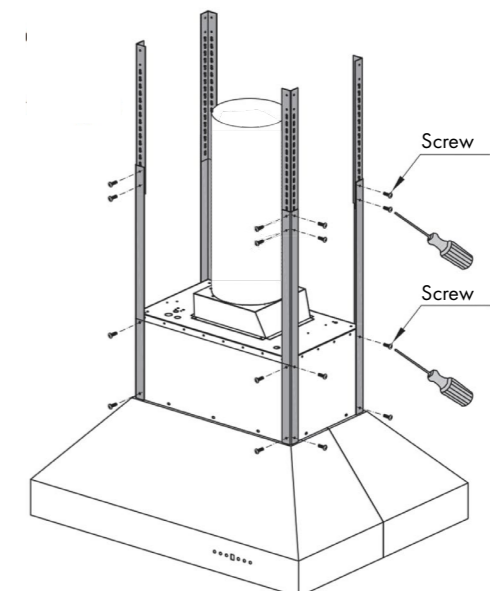

Figure 3
4. Determine desired height and attach the four short angle iron pieces to the long angle iron pieces that are attached to the hood. *Figure 3*